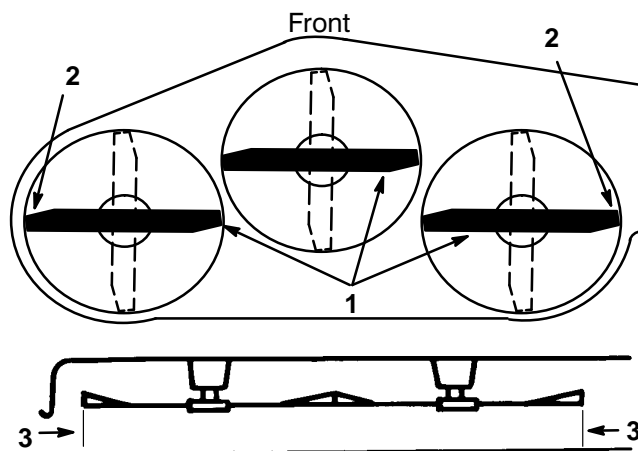

Figure 11
3. Carefully rotate blade(s) side to side (Fig. 11). Measure between the outside cutting edges and the flat surface (Fig. 11). If both measurements are not within 3/16" (5 mm), an adjustment is required; refer to steps 4 and 6.